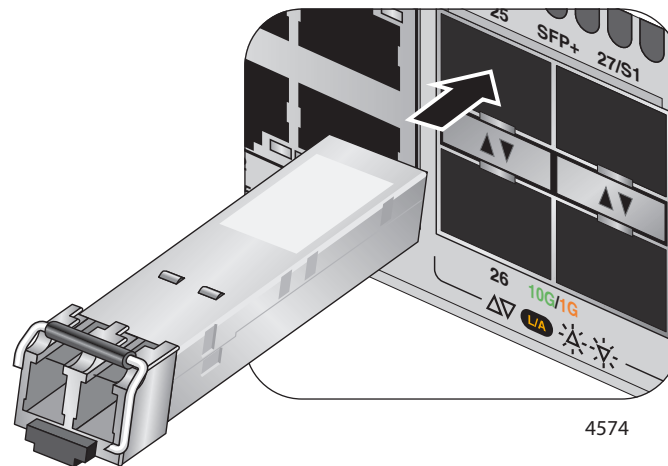

Figure 32. Installing an SFP Transceiver
3. If you are installing the transceiver in a top port, position the transceiver with the Allied Telesis label facing up. If you are installing the transceiver in a bottom port, position the transceiver with the label facing down. Refer to Figure 32.